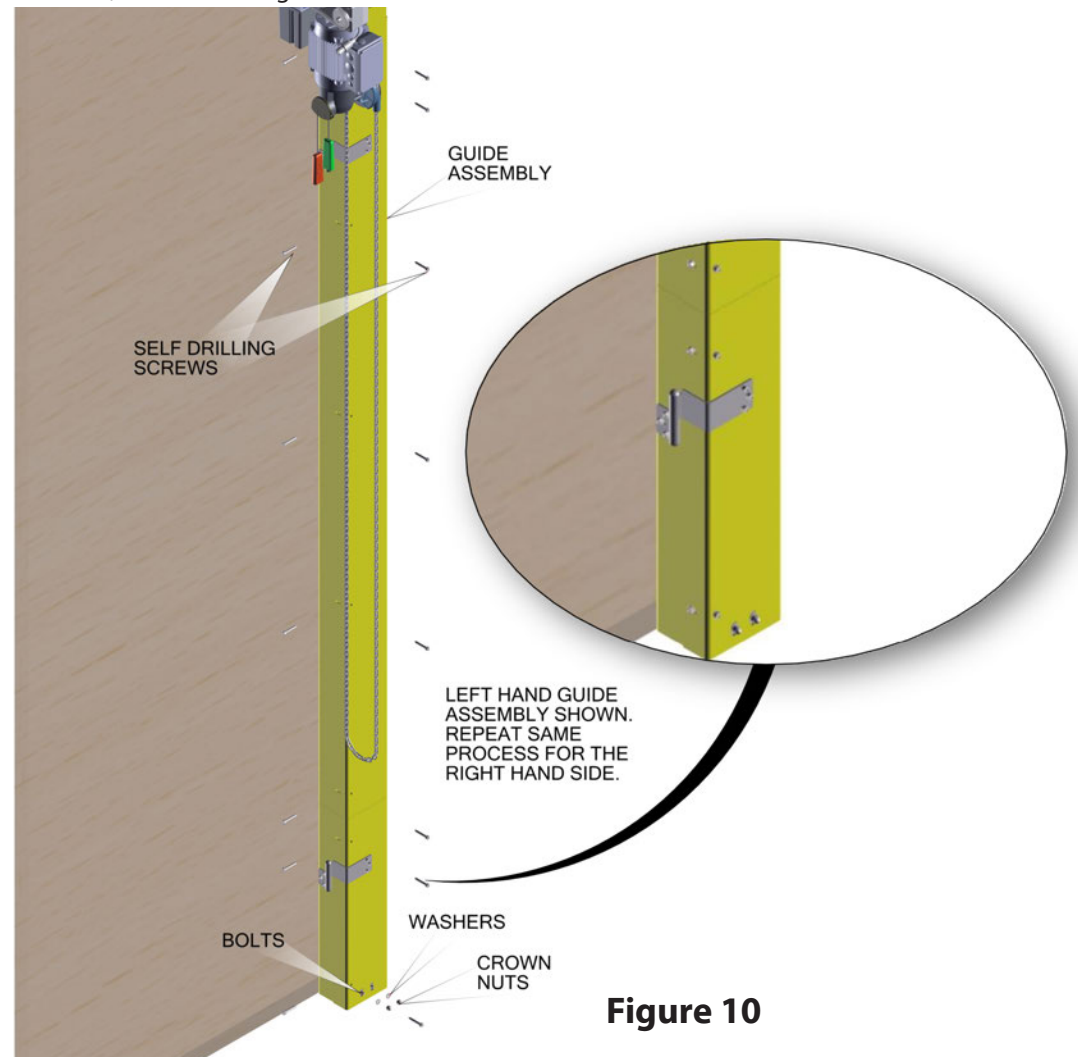

Figure 10
- Close the hinged guide assemblies and bolt in place using the self drilling screws provided, as shown in Figure 10.
- Using the bolts and washers provided, attach the front guide to the floor bracket, as shown in Figure 10.